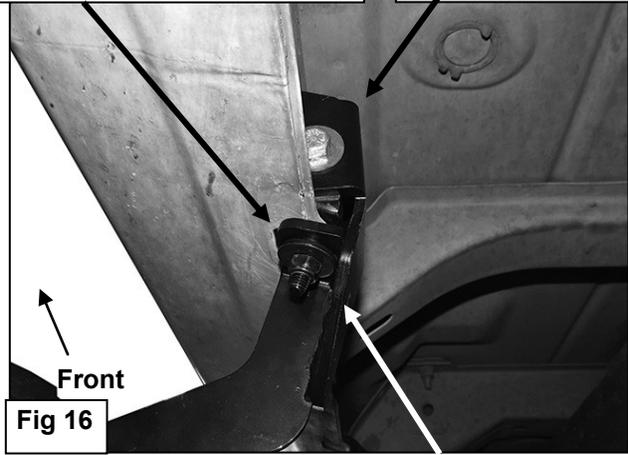

Fig 16
10. Line up the side tab on the Lower Bracket with the threaded hole in the side of the Upper Bracket. Attach the Lower Bracket to the Upper Bracket with (1) 8mm x 25mm Hex Bolt, (1) 8mm Lock Washer and (1) 8mm Flat Washer, (**Figure 16**). Leave loose at this time.
11. Repeat **Steps 1—3** for the (2) remaining passenger side Bracket installations. **NOTE:** Cradles on Brackets installed on passenger side will face forward.